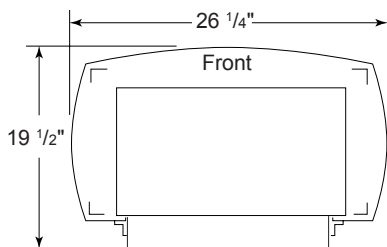

Figure 5 - Stove With Burner System Bottom Dimensions
- This stove is a freestanding unit designed to set directly on the floor. If your stove is to be installed directly on carpeting, vinyl tile, or any combustible material other than wood, it must be installed on a metal or wood panel extending the full width and depth of the stove. See Figure 5, page 6.